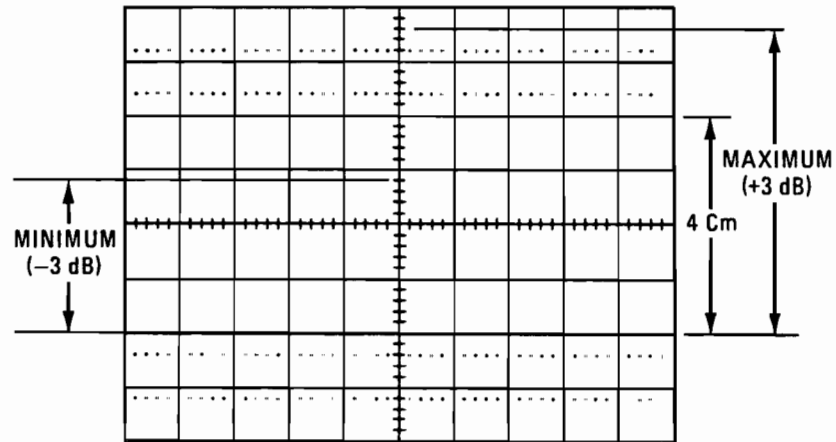

Figure 5-52. Flatness Response
13. Sweep the function generator frequency from 100 Hz to 10 MHz. Iterate between adjustments A5C14 (LO) and A5R75 (HI) to obtain the most constant overall response from 100 Hz to 10 MHz.
14. Check that the ± 3 dB flatness specification is met between 100 Hz and 2 MHz as follows. Sweep the function generator frequency between 100 Hz and 2 MHz. On the oscilloscope, note the maximum point (+3.0 dB) can be up to 5.6 divisions, and the minimum point (-3.0 dB) which can be down to 2.8 divisions. Refer to Figure 5-52.